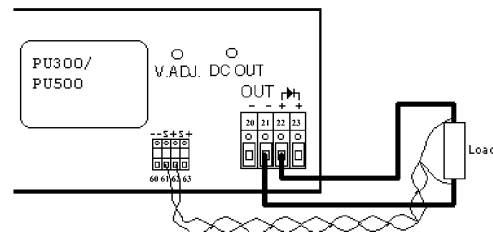

Figure 6. External sense.
- Connect a twisted-pair (0.25mm2 -1.5mm2) between the sense terminals of the converter and the load, see *Figure 6*. The sense leads and the power cables shall be of approximately the same length and drawn as close to each other as possible. **Beware of correct polarity!**